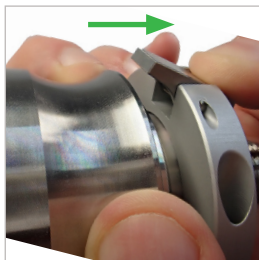

Figure 9
- ▶ Press the rocker of the sliding sleeve lock (Pos. 2), then pull the sliding sleeve (Pos. 1) backwards (Figure 9).